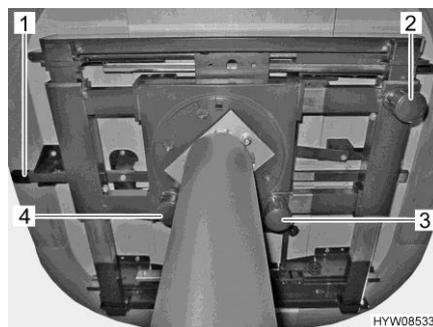
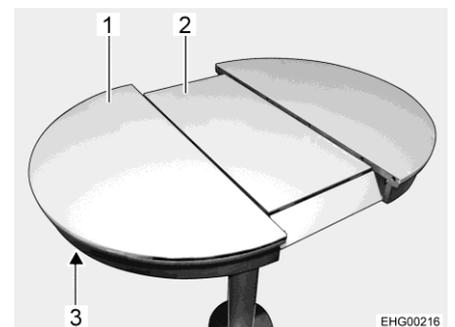

Fig. 82 Adjustment possibilities on the table
Fig. 83 Expanding the table top
- Pull down the knob (Fig. 82,3) and hold it.
- Pull down the knob (Fig. 82,2) and hold it.
- Pull down the knob (Fig. 82,4) on the lock.
- Press the release (Fig. 82,1 and Fig. 83,3) upwards.
- Pull on the table top (Fig. 83,1) until the centre section (Fig. 83,2) comes up and is at the same height as the table top.
- Press the release (Fig. 83,3) upwards.
- Pull on the table top (Fig. 83,1) until the centre section (Fig. 83,2) is freed.